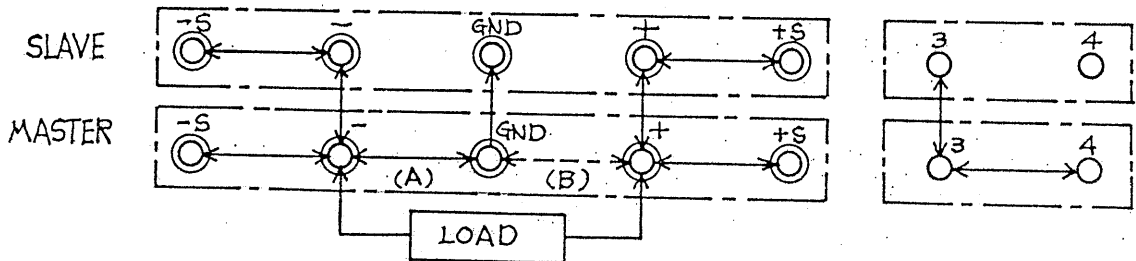

Fig. 3-10 One-control parallel operation master, slave, load
- 1) Connect the terminals on the rear panel of the master to the slave and the load as shown in Fig. 3-10.